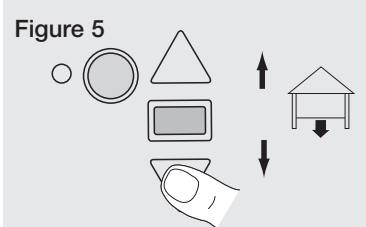

Figure 5
4. Press and hold the DOWN Arrow Button until the door is in the desired CLOSED position (fig 5).